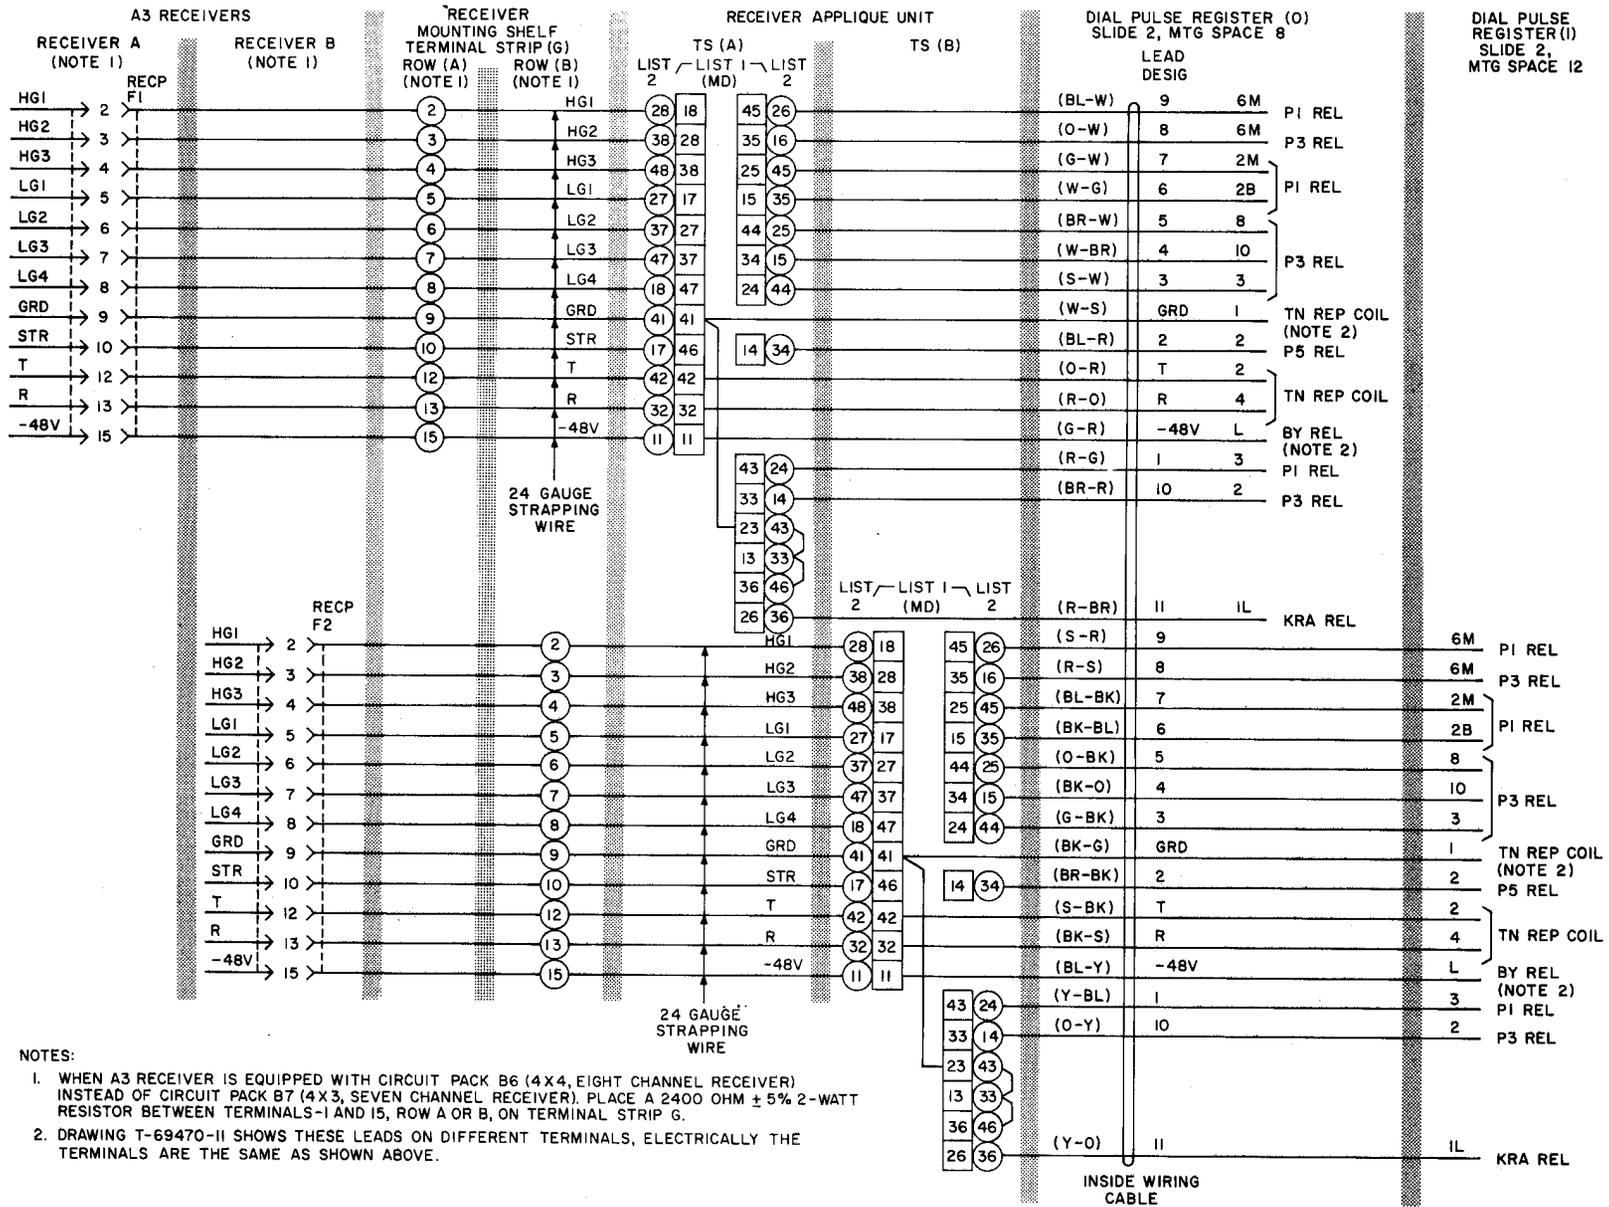

Fig. 24—Connections for Adding Externally Mounted Type A3 Receivers to List 3 (MD) Cabinet Assembly
**8.10** Place 24-gauge strapping wire between applique unit (terminal strips A and B), and the mounting shelf (terminal strip G) as shown in Fig. 24.
**8.11** Install 25-pair inside wiring cable between TOUCH-TONE calling applique unit and dial pulse registers on slide 2 in the 400 Switching System cabinet. Terminate conductors as shown in Fig. 24.